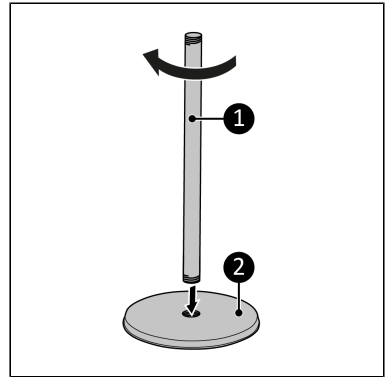

Figure 18.
2. Screw the bottom tube (Figure 18, pos. 1) to the base (Figure 18, pos. 2).